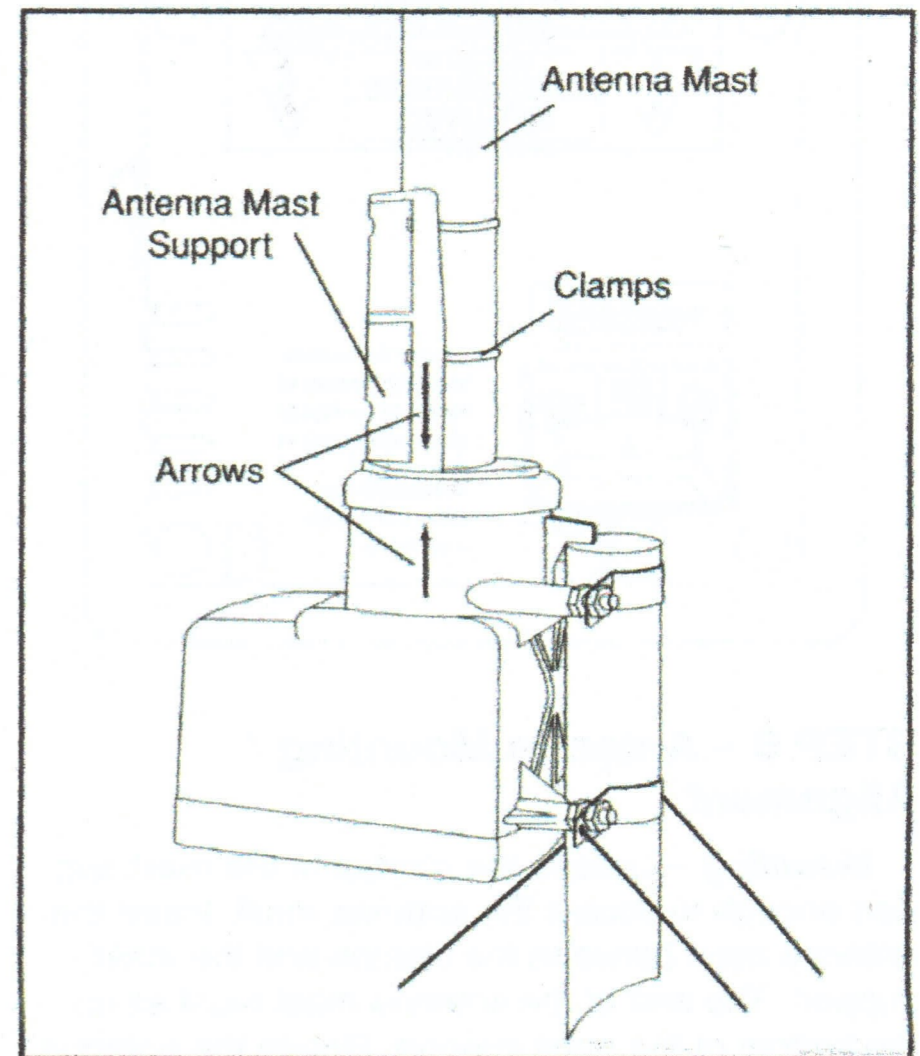

Fig. 4
- F. Hold the < button down until the rotator stops, then release button. The arrows molded in the antenna mast support section (FIG.4) and the body of the rotator unit should be aligned. This position represents the fully counterclockwise stop position. There is also a fully clockwise stop position 360 degree opposite to this position.
- Hold the < button down until the rotator stops, then release button. The arrows molded in the antenna mast support section (FIG.4) and the body of the rotator unit should be aligned. This position represents the fully counterclockwise stop position. There is also a fully clockwise stop position 360 degree opposite to this position.